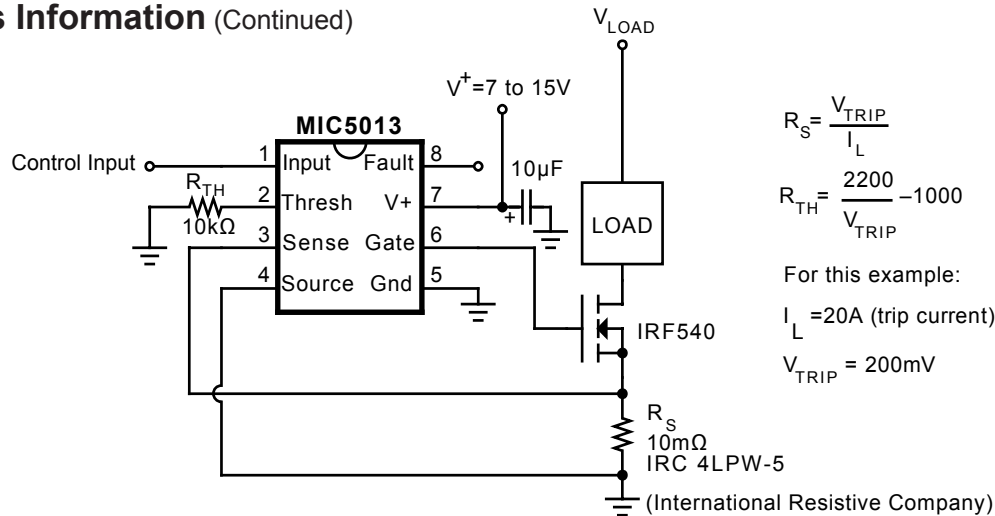

Figure 2. Low-Side Driver with Current Shunt
**Low-Side Driver with Current Shunt** (Figure 2). The over-current comparator monitors  $R_S$  and trips if  $I_L \times R_S$  exceeds  $V_{TRIP}$ .  $R$  is selected to produce the desired trip voltage.
The trip current is set higher than the maximum expected load current—typically twice that value. Trip point accuracy is a function of resistor tolerances, comparator offset (only a few millivolts), and threshold bias voltage ( $V_2$ ). The values shown in Figure 2 are designed for a trip current of 20 amperes. It is important to ground pin 4 at the current shunt  $R_S$ , to eliminate the effects of ground resistance.